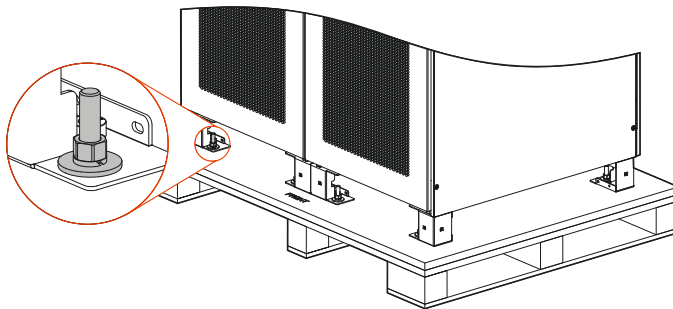

Figure3-5 Bolt position
Step 5 Unscrew the bolts that connected with UPS and wooden bracket by socket wrench, the bolt position is as shown in Figure3-5.